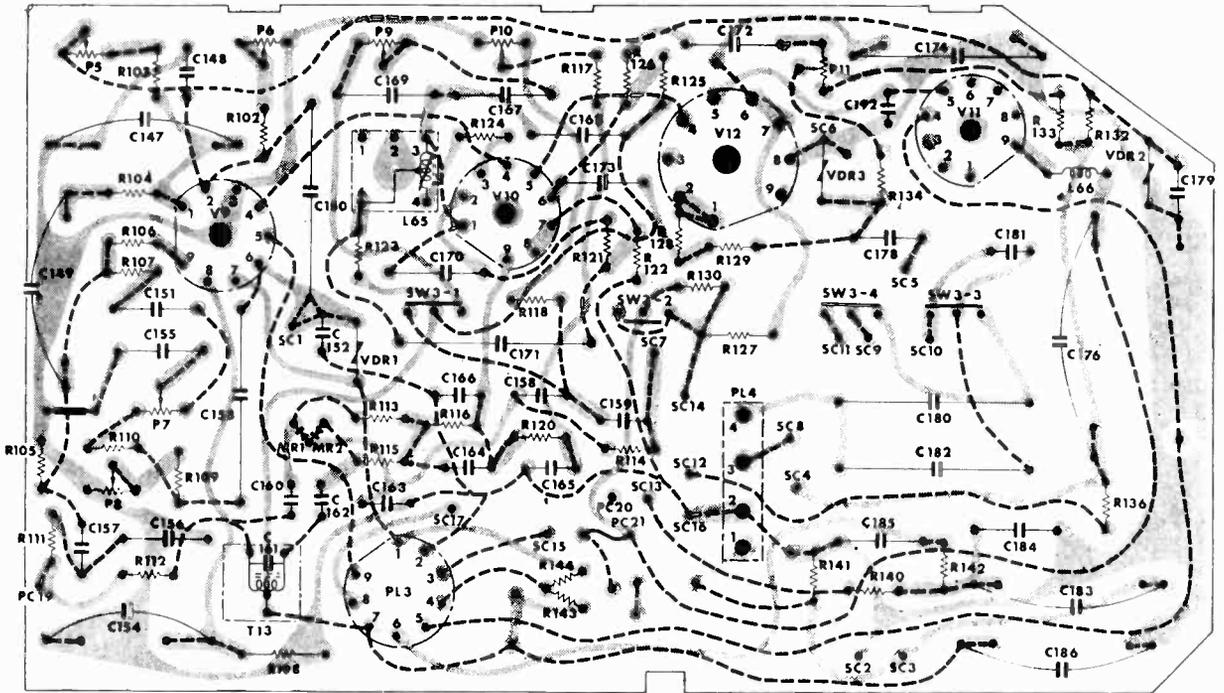

Fig. 2: Layout of the timebase printed board viewed from the tin-dip side.
The pulses are generally obtained from the line output transformer and the oscillogram shown in Fig. 2 gives an idea of their nature. Amplitude is between
*Fig. 2: Nature of the positive-going clamp pulse used to drive the clamp into full saturation once each line. The pulse is derived from a suitably phased winding on the line output transformer. When the clamp is driven into saturation the clamp potential is reflected at the tube grid.*
The nature of the colour-difference drive signals seen by the grids of the picture tube is shown in Fig. 6 (again for the standard colour-bar test pattern). The R—Y signal is shown at (a) and the B—Y signal at (b)—compare with Fig. 2 last month. The peak-to-peak amplitude of (a) is about 120V and that of (b) about 200V. These oscillograms were obtained from the anodes of the colour-difference output valves and the amplitude ratio approximates to that required for correct equal-luminance grid drives.